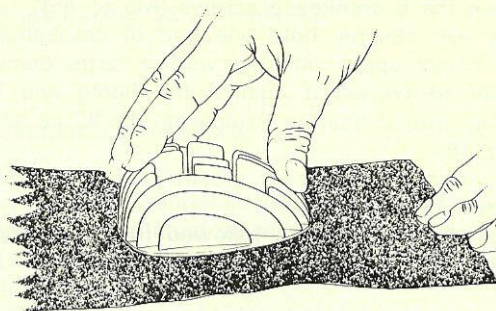

fig. 17
- true up surface of cylinder head in the same way as the cylinder (fig. 17) and fit spark plug. The latter to prevent washers from dropping inside cylinder and/or crankcase